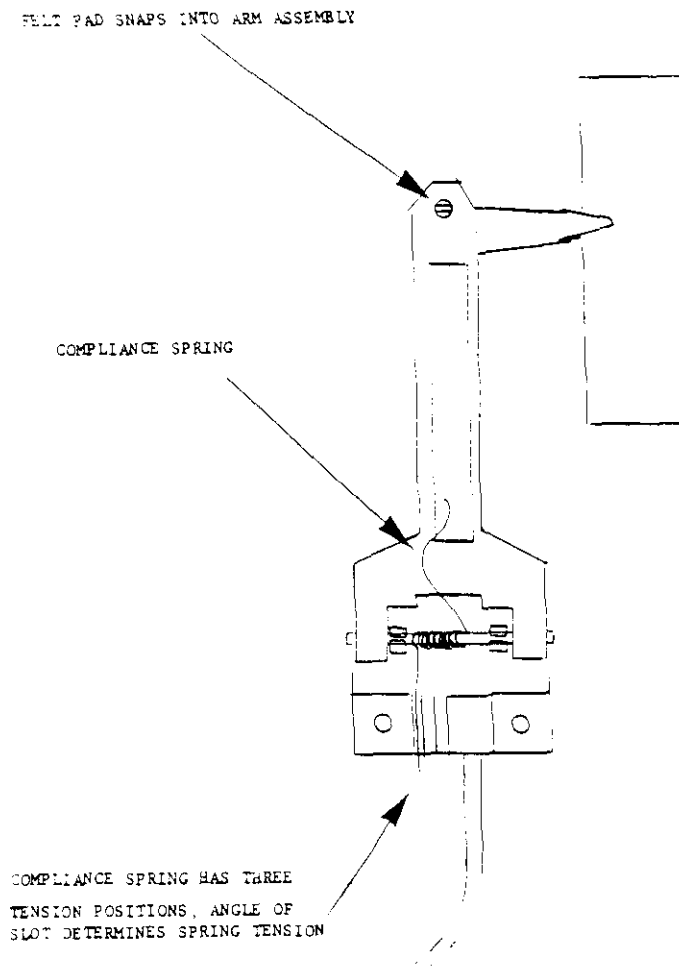

FIGURE 5-14
1. The spring tension for the pad arm has three positions for the spring end in the lower portion on the head carriage assembly (see Figure 5-14).